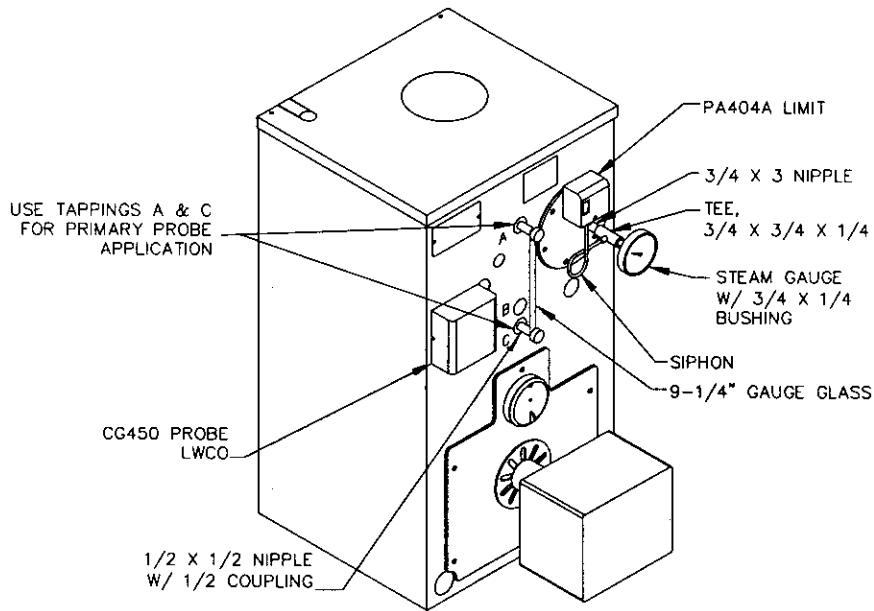

Figure 11
KD Boilers: A separate Primary Probe Low Water Cut-Off Carton, 90759 is required. This carton contains the CG450 LWCO, 22-162-10 longer glass/rods carton, 3/4" x 3" nipple, 3/4" x 3/4" x 1/4" tee, (2) 1/2" x 2" nipples and (2) 1/2" couplings. Use these components along with those from the Steam Trim Carton and install fittings and controls per Figure 11.